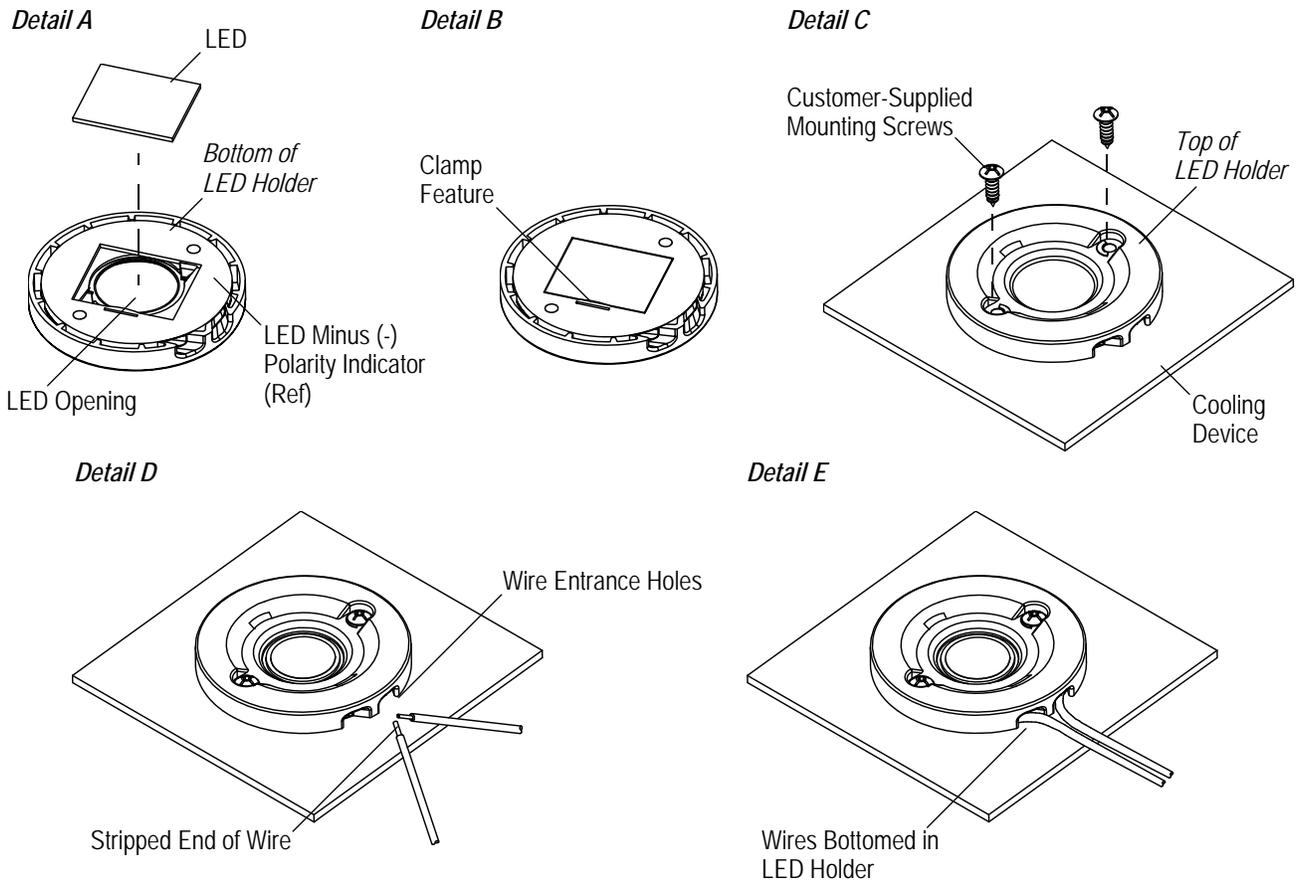

Figure 6
1. The LED must be positioned in the LED opening from the bottom side of the LED holder so that one edge of the LED is against the clamp feature. The LED polarity indicators must be observed when orienting the LED into the LED opening. Then, the LED must be inserted until the clamp feature holds it in place. See Figure 6, Details A and B.
2. The LED holder (bottom side) must be placed on the cooling device so that the screws holes align over the holes in the cooling device. The LED holder must be secured to the cooling device using two customer-supplied mounting screws meeting the requirement described in Paragraph 3.4. Each mounting screw should be tightened to a torque between 0.4 and 0.6 Nm [3.54 and 5.31 in.-lb]. See Figure 6, Detail C.
3. The stripped end of each wire must be inserted into a wire entrance hole of the LED holder until it bottoms in the LED holder. See Figure 6, Details D and E.